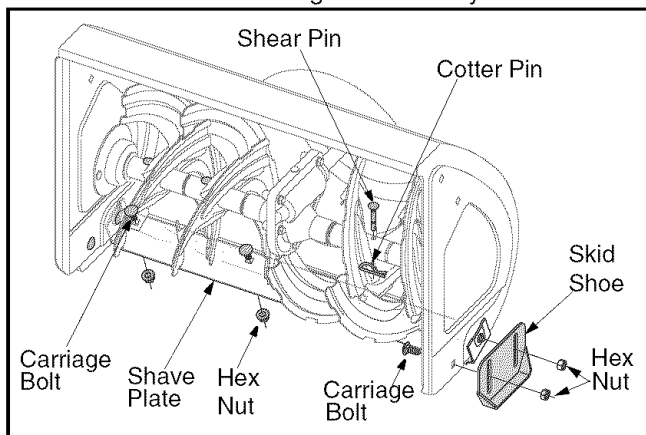

Figure 10
1. Remove the four carriage bolts, and hex nuts which attach skid shoes to the snow thrower on two sides. See Figure 10.
3. To remove shave plate, remove skid shoe and rest of the hardware including carriage bolts, and hex nuts which attach shave plate to the snow thrower housing. For location of shave plate, see Figure 10.
The augers are secured to the spiral shaft with four shear pins and cotter pins. See Figure 10. If you hit a foreign object or ice jam, the snow thrower is designed so that the pins may shear.